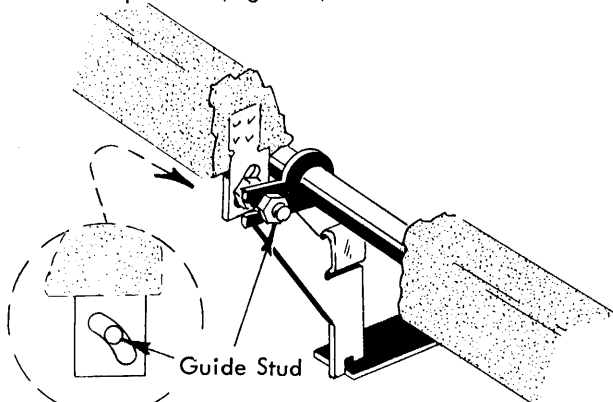

FIGURE 186. Guide Stud (Early Style)
- a. Early Style - Adjust the guide stud to operate freely in the spacebar stem throughout the full travel of the spacebar (Fig. 186).